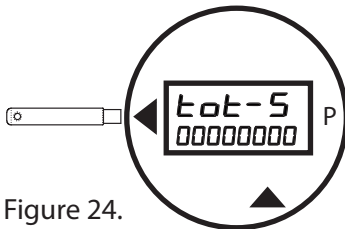

Figure 24.
- Pass the wand over the **◀** to move and activate each digit (Figure 24).